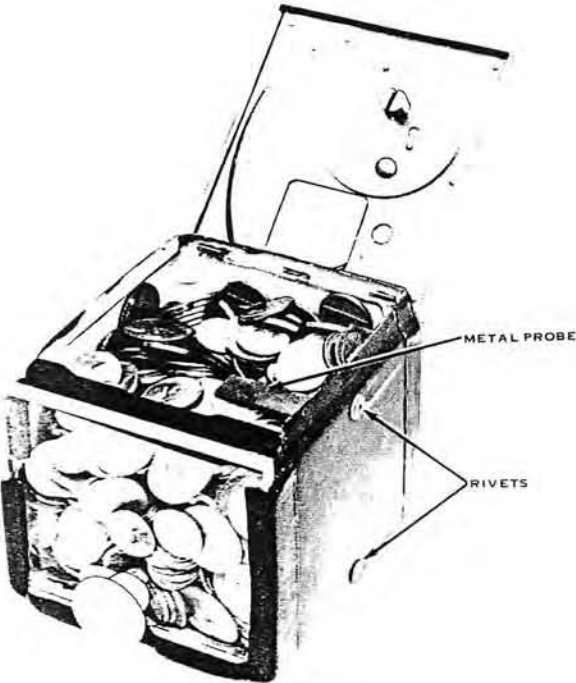
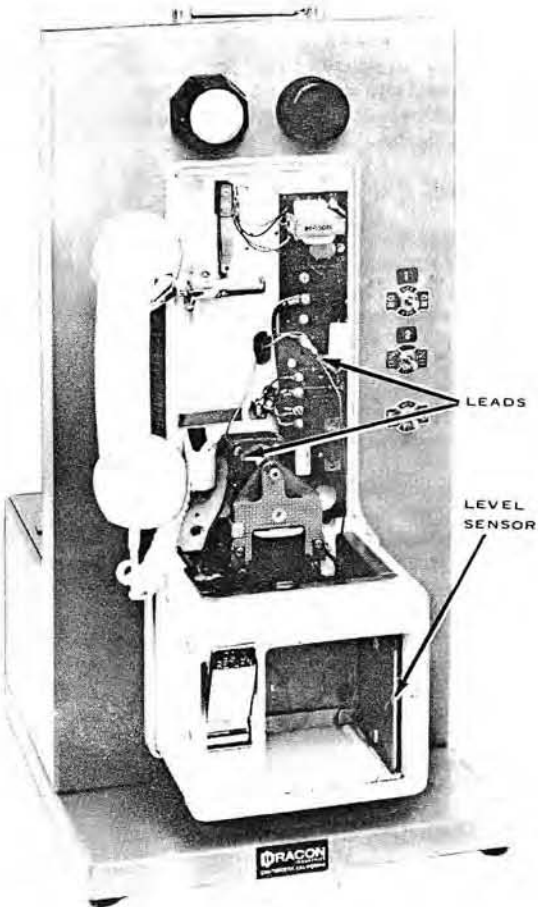

Figure 1. Filled Coin Box.
Figure 2. Coin Telephone Housing.
2.01 Inside the coin box, a metal probe (Figure 1) is connected from the outside, via a slide contact, to a 39-kilohm resistor mounted on the level sensor (Figure 2). The level sensor is a printed wiring card that is magnetically fastened to the side wall of the coin vault (Figure 2). An insulated lead connects the 39-kilohm resistor to the ring side of the line through the break contacts on the hookswitch. Another lead provides a solid ground connection to the coin box.
- (b) A suitable arbor press (available equipped with a punch die for accurately and conveniently piercing the side of a coin box to receive rivets for the probe as shown in Figure 1).
- (d) A probe assembly (Figure 1), required for installation into the coin boxes used in coin telephones.
- (a) Pierce the side of the coin box with the arbor press and punching die tool (Figure 1).
- (b) The level sensor is magnetically placed up against the right-hand wall of the coin telephone vault (Figure 2).
- (c) The leads from the level sensor are connected to terminals available in the coin telephone (Figures 2 and 3).